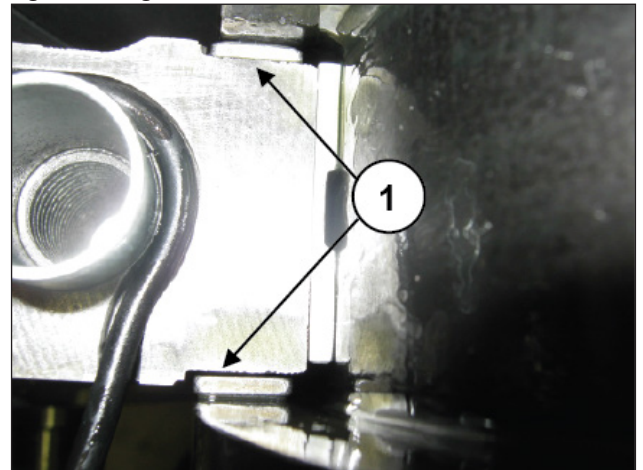
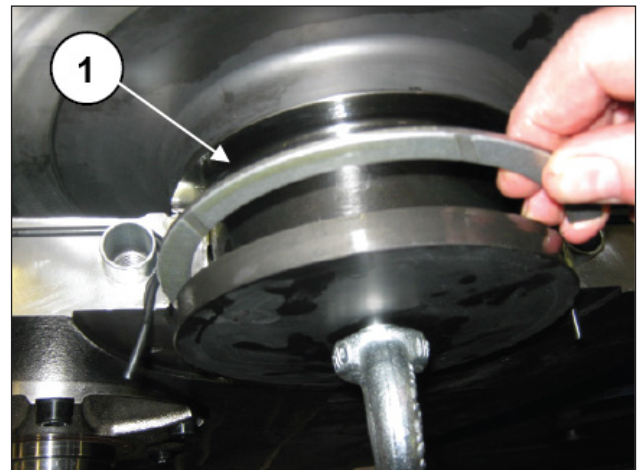

Fig. 33
Fig. 34
Remove the two crankshaft clearance half-rings (pos. ①, Fig. 33 and Fig. 34).